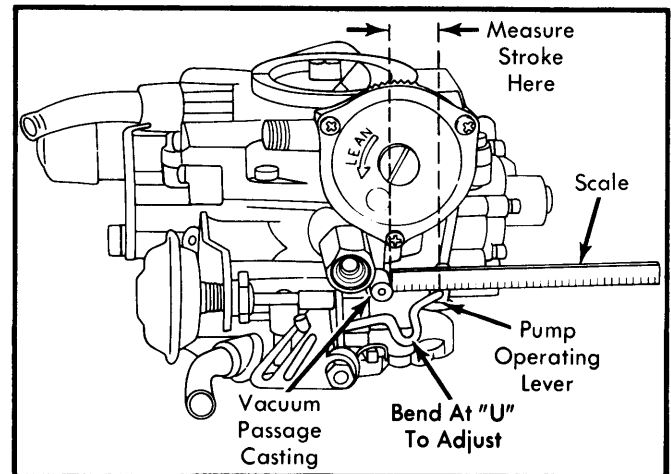

Fig. 2 Adjusting Accelerator Pump Piston Stroke
1) Back idle speed screw off until throttle valves are closed completely. Measure specified accelerator pump stroke distance from vacuum passage casting to center of hole in pump operating lever. See Fig. 2.